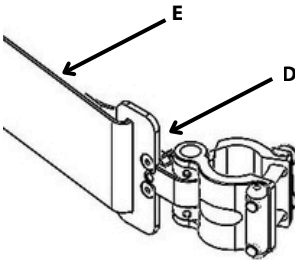

Figure 8
2) Change the fastener angles to adjust the strap depth with screw D. (Figure 8)